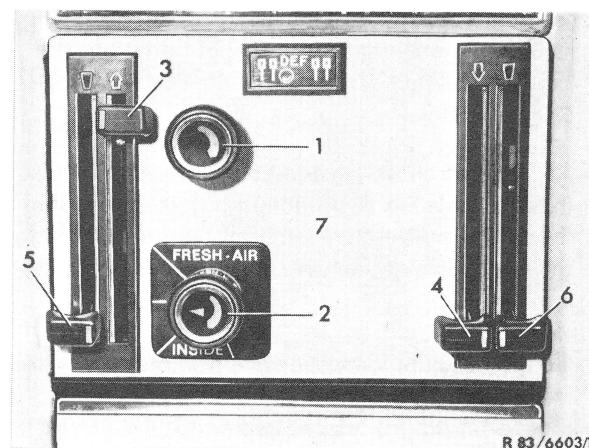

Figure 2
3 Close operating lever (3 and 4) for air in upward and downward direction. Set operating lever (5 and 6) for heating way down (to off) (Fig. 2).
6 Set temperature vacuum switch (2) to full cooling capacity (inside) and blower switch (1) to full blower speed (step 4) (Fig. 2).